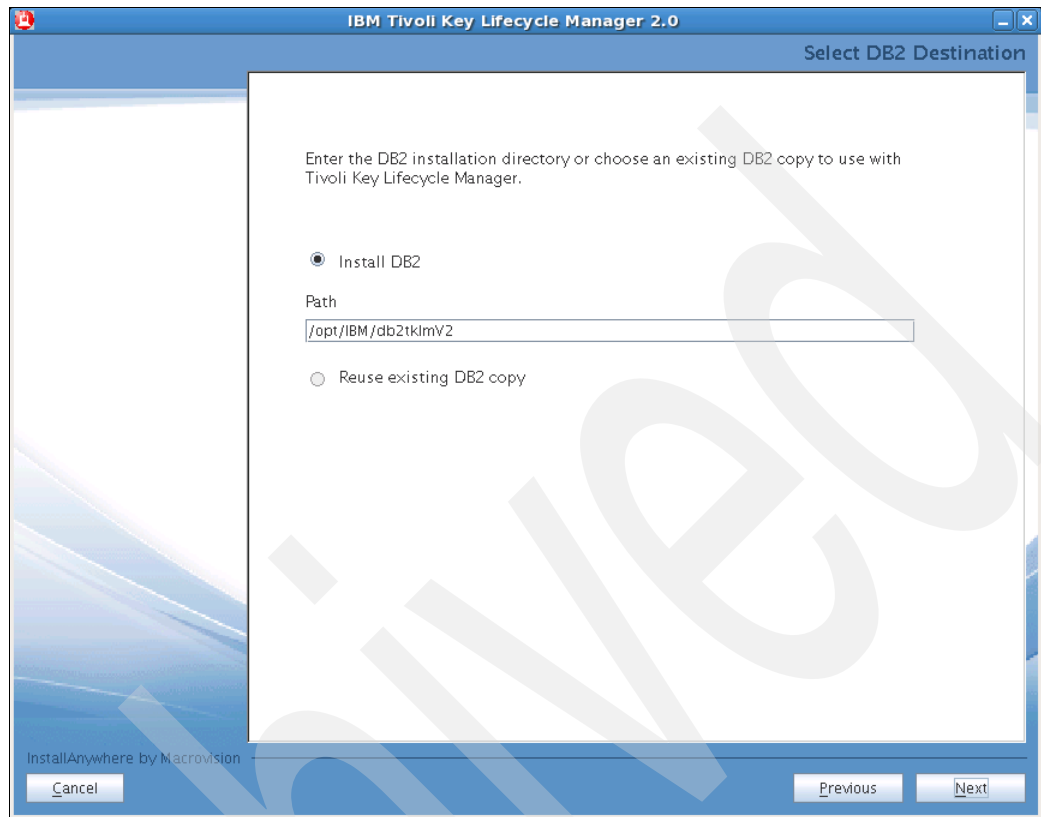

Figure 7-5 DB2 directory specification
8. The next screen (Figure 7-5) prompts you to select installation or reuse of DB2 and specify a directory. Make the appropriate entries and click **Next**.